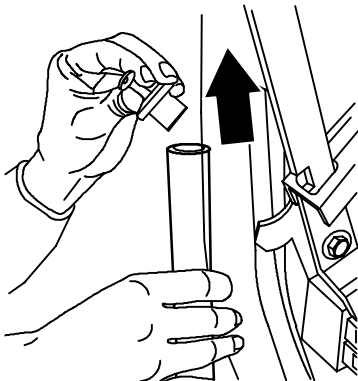

FIG. 49
2. Release retainer tab on hose plug and pull out plug while holding hose up, then slowly lower the drain hose to the floor drain (Figure 49).